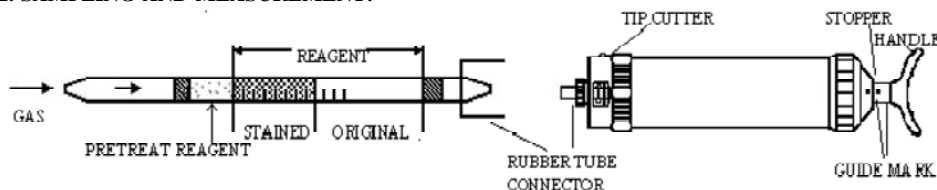

Fig.1
- ① Break both ends of detector tube.
- ② Insert the detector tube into aspirating pump securely as shown in Fig.1. (Arrow mark shall point to the pump.)
- ③ Align the guide marks on the shaft and stopper of the aspirating pump.
- ④ Pull the pump handle at full stroke until it locks and wait for 1 minute or until the completion of sampling is confirmed with the flow indicator of the pump (See descriptions about the flow indicator in the instructions of the pump).
- ⑤ On completion of sampling, read the scale at the maximum point of the stained layer.